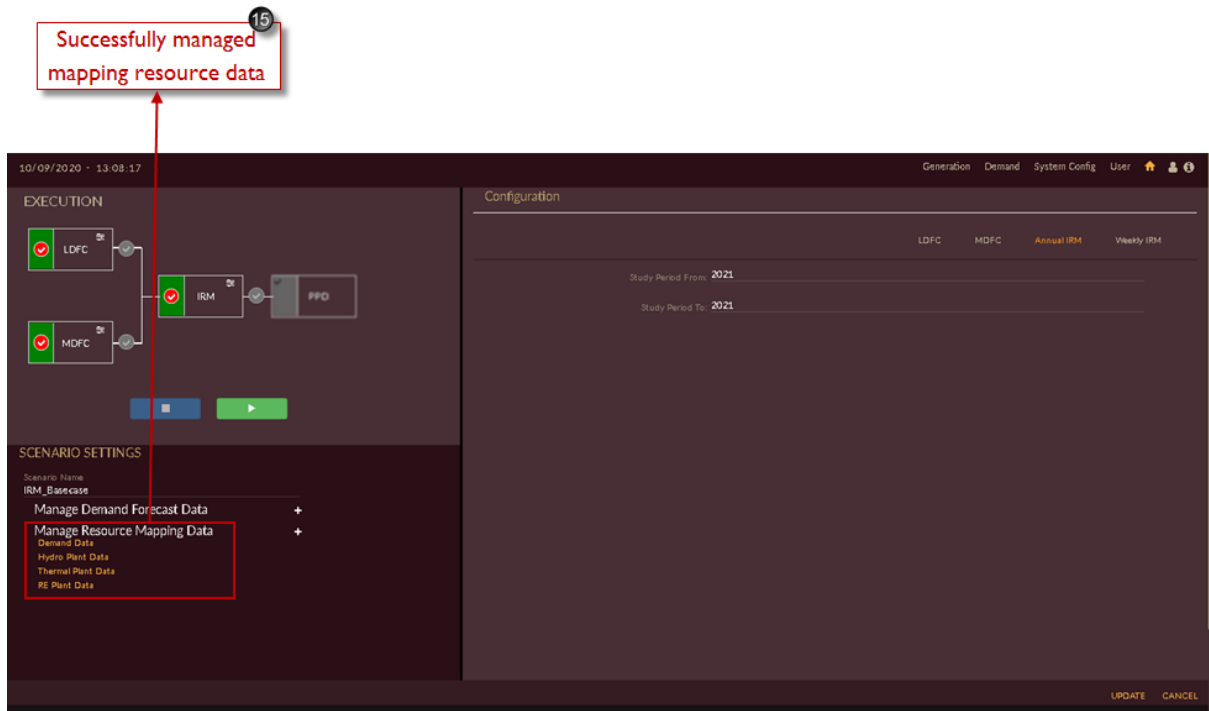

Figure 224. Finalized IRM Scenario
15. After managing all resource data like Demand Data, Hydro Plant Data, Thermal Plant data and RE Plant Data into the IRM Base case scenario, you will see the page as shown in Figure 224.